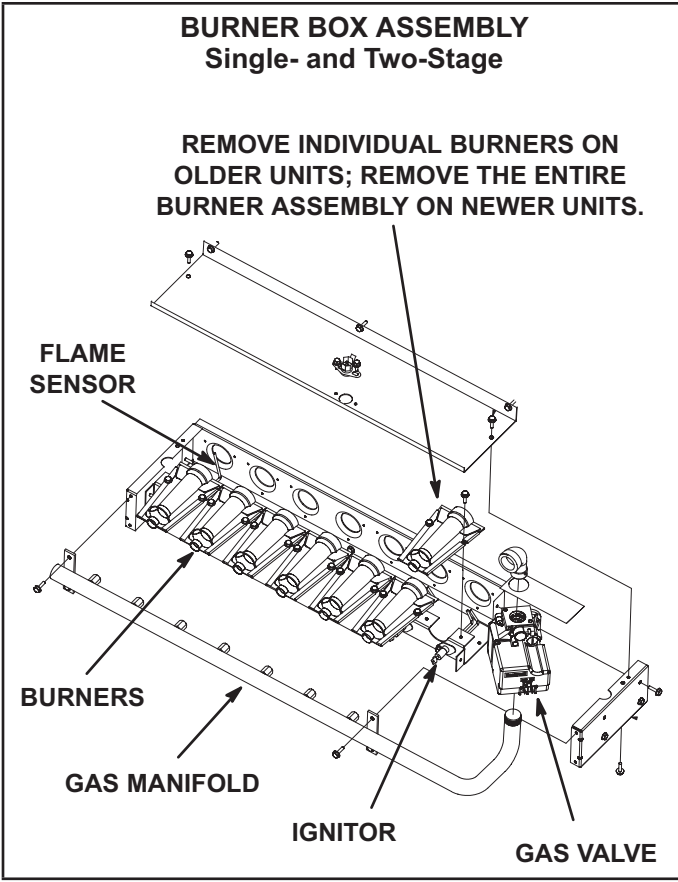

FIGURE 28
- 4 - Remove screws securing burners to burner support and lift the individual burners or the entire burner assembly from the orifices. See FIGURE 28. Clean as necessary.